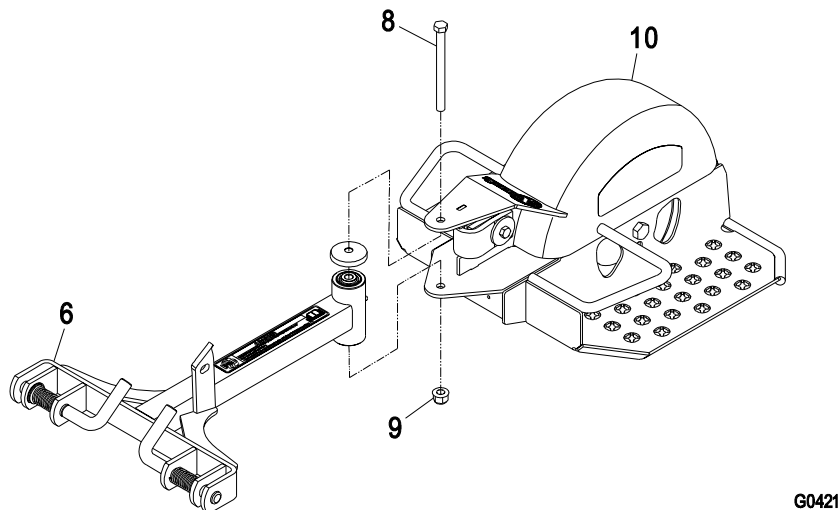

FIGURE 8
5. Remove the M10-1.5 x 120 mm hex capscrew (Item 8) and M10-1.5 flanged nyloc nut (Item 9) from the pivot hub. See Figure 8.
6. Locate the sulky frame assembly (Item 10) and align with the pull arm assembly. Re-install the M10-1.5 x 120 mm hex capscrew (Item 8) and M10-1.5 flanged nyloc nut (Item 9) removed in step 4 as shown in Figure 8.